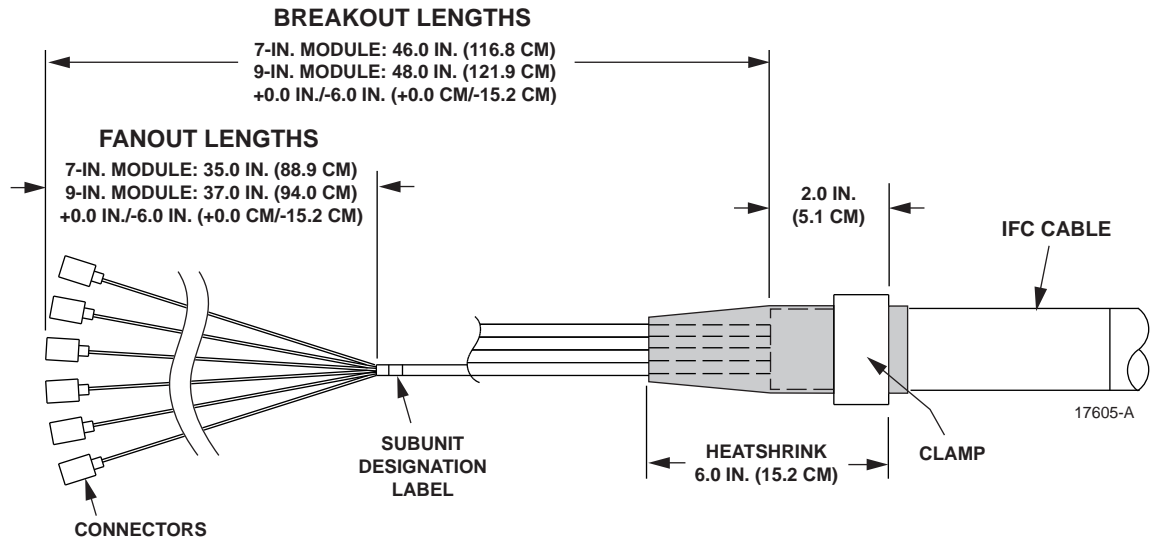

Figure 10. Recommended Breakout Dimensions for Stranded Cable (IFC Shown)
If the module was shipped without a pre-terminated cable stub, the cable must be broken out corresponding to specified dimensions. For stranded cable, refer to Figure 10.
- **Note:** Figure 10 depicts an IFC cable. For OSP cable, use the same dimensions as shown for the IFC cable. A blocking kit is also recommended. The blocking kit is not shown.